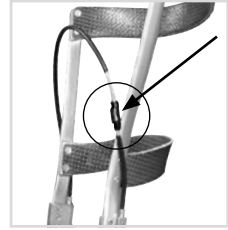

fig. 10
The separable pulling cable is delivered preassembled. If you want to adapt the pulling cable, place the coupler (fig. 10) in a position that is well suited for the patient.
- 1 Reduce the length of the long and/or short pulling cable, if necessary. The coupler should be positioned in such a way that it is easy to handle by the patient (fig. 10).